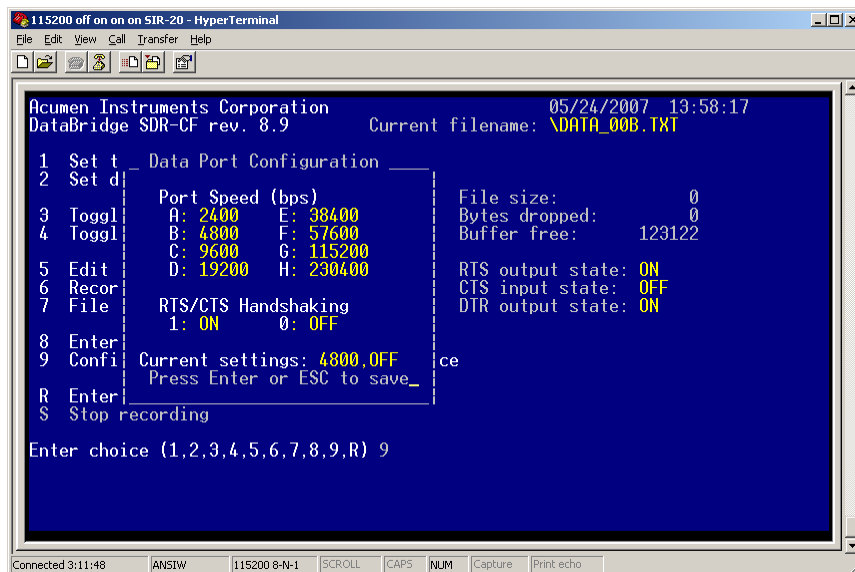

Figure 4: Data Port Configuration menu.
**13** Press 9 to view the Data Port Configuration (Figure 4). Be sure the current settings are appropriate for the GPS you are using.
**16** Press 9 to view the Data Port Configuration (Figure 4). Be sure the current settings are appropriate for the GPS you are using.